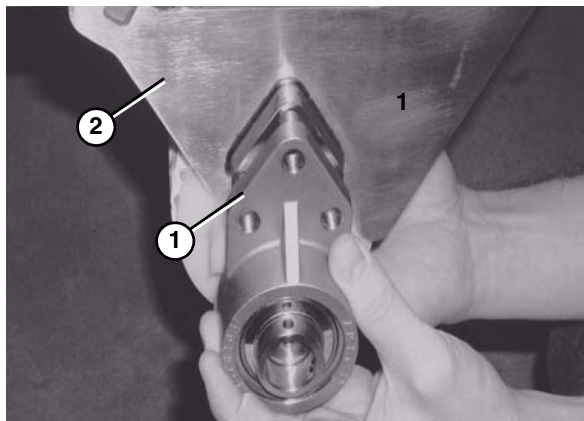

Figure 61
7. Disconnect the 3 hole flange bearing (Figure 61, item 1) from the nose bar drive weldment (Figure 61, item 2).